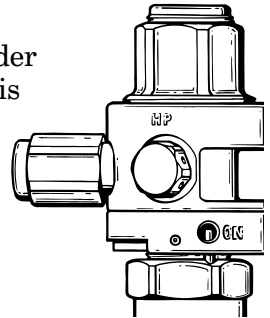

*Fig. 6 - Filling the M.A.S.*
5. While supporting the M.A.S. with one hand, place the yoke of the fill adapter over the cylinder valve to align the inlet fitting flush against the valve O-ring. Tighten the fill adapter yoke screw clockwise into the small dimple on the backside of the cylinder valve only until finger snug. (See Fig. 6.)